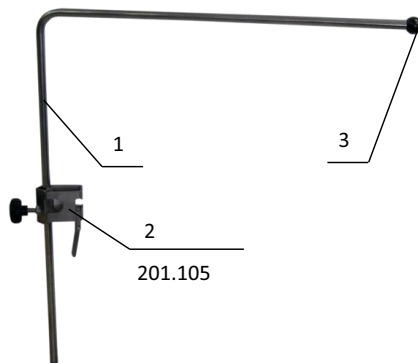

Figure 1. Anesthesia screen.
1. **Anesthesia screen** (a screen for anesthesia) (Figure 1). Made of stainless steel, adjustable in height. For fastening to the guide rails of the table, it is equipped with a radial clamp